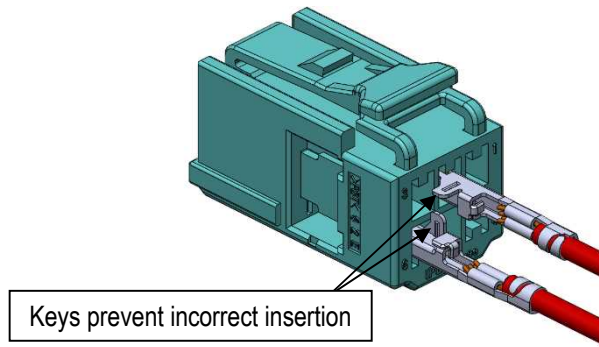

Fig27.FEMALE HOUSING Incorrect terminal insertion
- ⑤ Terminals won't fit into the housing coreholes, if inserted in the wrong orientation (see Fig.27).
- ① Terminals must be inserted in the orientation instructed. Forcibly inserting terminals in any other orientation may result in damage or deformation. Furthermore, if the terminals are inserted with incorrect orientation, terminal key prevents insertion into coreholes. (see Fig.27)
- ② Once the terminal is inserted, do not apply excessive pulling force to the wire.